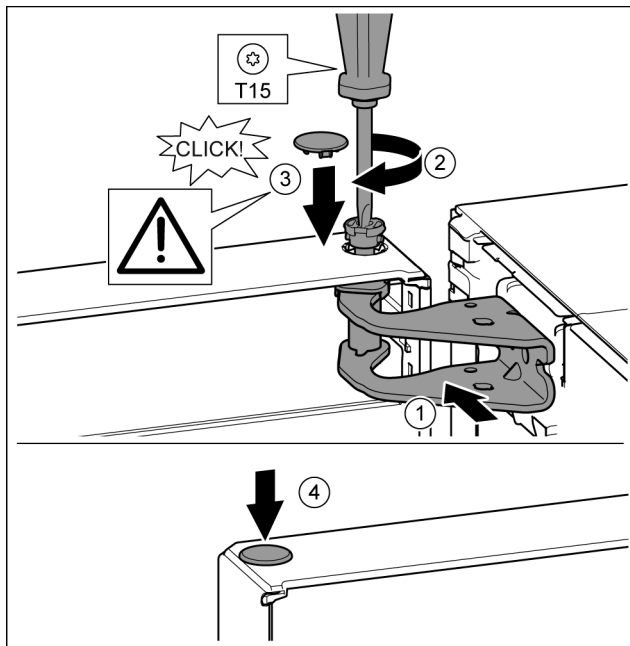

Fig. 40
- ▶ Align the top of the door with opening in the bearing bracket. Fig. 40 (1)
- ▶ Insert the bolt and tighten with a T15 screwdriver. Fig. 40 (2)
- ▶ Fit the protective cover to protect the door: Insert the protective cover and check that it is attached to the door. If not, insert the bolt fully. Fig. 40 (3)
- ▶ Insert the plugs. Fig. 40 (4)